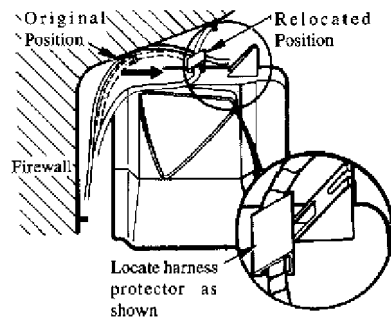

Fig. 2: Evaporator Installation
2. Install the evaporator as shown. Route the instrument harness on top of the evaporator approximately 6 inches from the firewall as shown in Fig. 2.